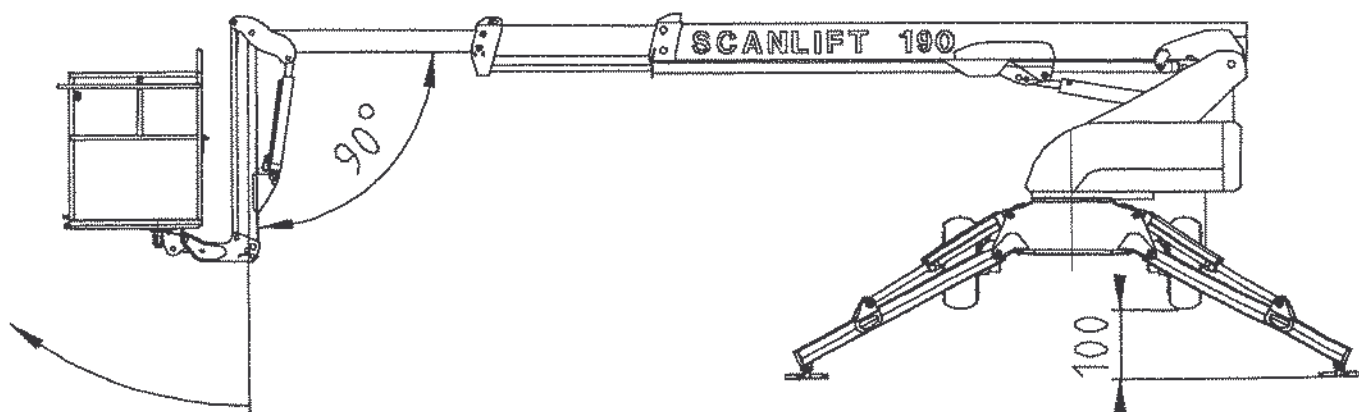

Figure 8.-4 Checking the lifting radius of the jib
8.12 Checking the jib see figure 8.-4